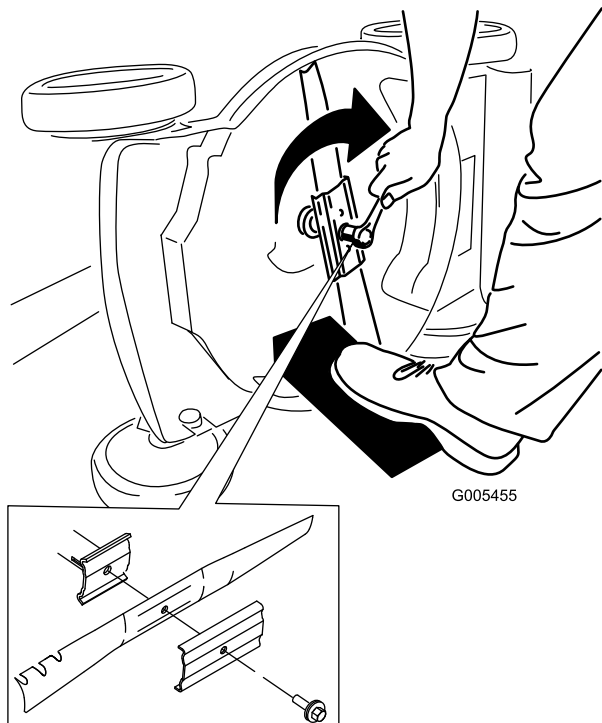

Figure 26
5. Install the new blade and all mounting hardware (Figure 26).